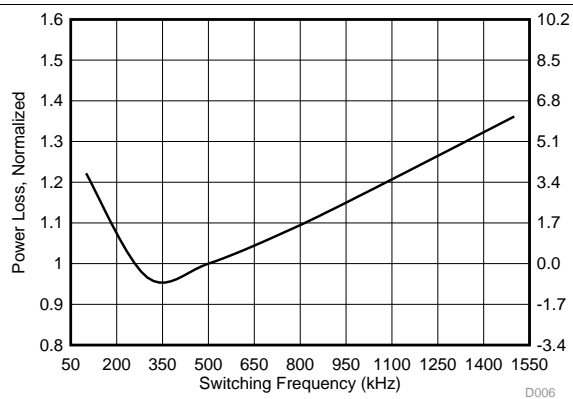

Figure 6. Normalized Power Loss vs Switching Frequency
- Normalized Power Loss for switching frequency ≈ 1.08 (Figure 6)
- SOA adjustment for switching frequency $\approx 1.32^\circ\text{C}$ (Figure 6)